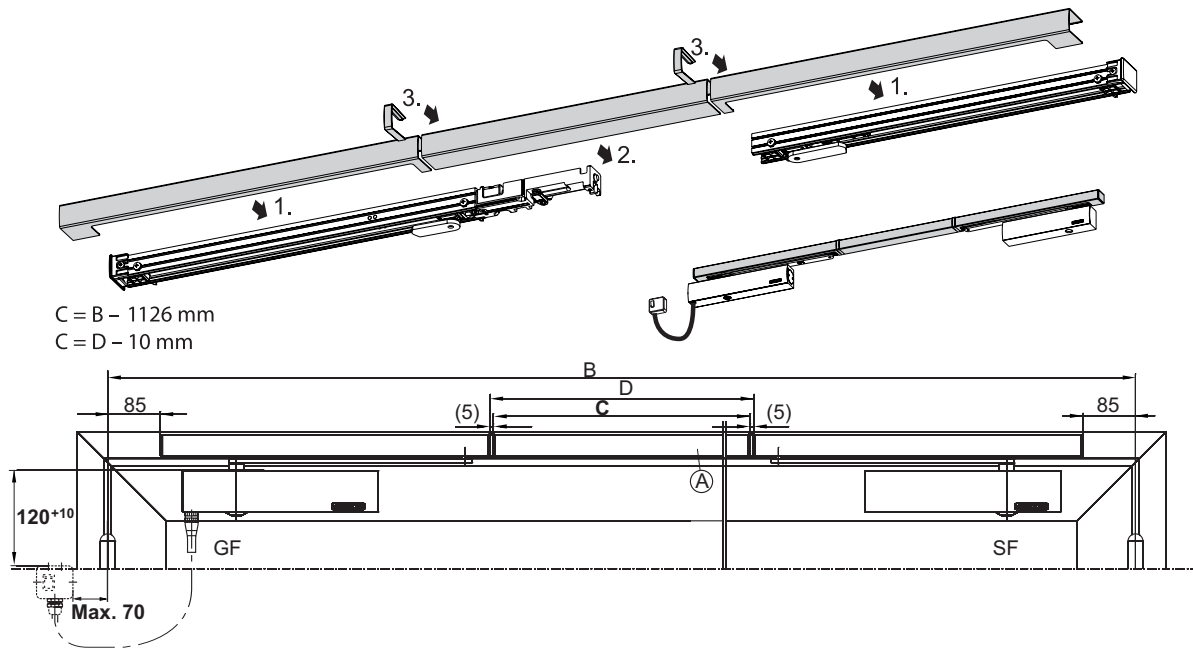

Fig. 6.11.1
- ▶ Shorten adjustable-size middle cover panel „A“ to size „C“ (Fig. 6.11.1).